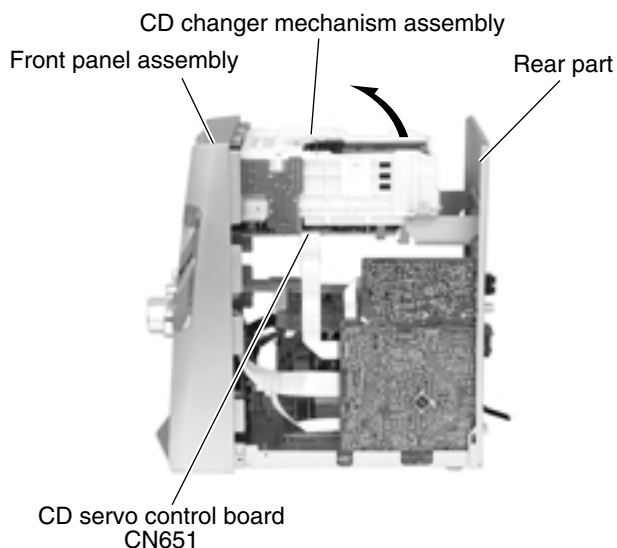

Fig.4
■ Removing the CD changer mechanism assembly (See Fig.4, 5)